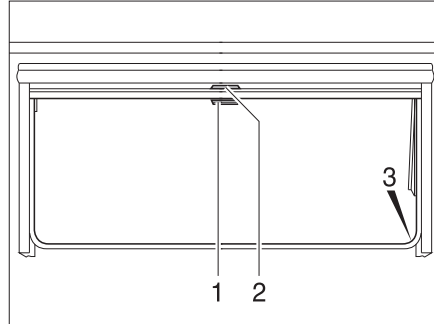

Fig. 75 Hinged window
- Pull blind at the handle (Fig. 75,2) downwards. If the blind is to be completely closed, it is suspended into the locking devices (Fig. 75,3) situated on both sides of the window frame.
- If the blind is completely closed: Press handle (Fig. 75,2) downwards and, at the same time, tilt it slightly inward. The blind can be taken out of the locking devices situated on both sides of the window frame.
- If the blind is in an intermediate position: Pull the handle (Fig. 75,2) slightly downwards until the locking device releases.
- Pull insect screen at the handle (Fig. 75,1) down and hang it into the locking devices (Fig. 75,3) situated on both sides of the window frame.
- Press handle (Fig. 75,1) downwards and, at the same time, tilt it slightly inward. The insect screen can be taken out of the locking devices situated on both sides of the window frame.